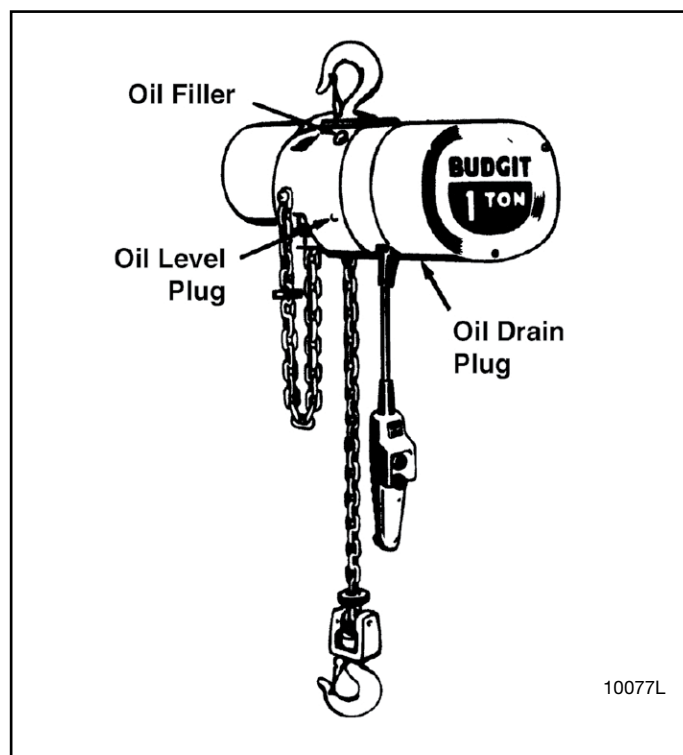

Figure 4-1. Location of Oil Filler and Plugs
4-2. CHANGE GEAR CASE OIL (Fig. 4-1).
(1) Check to see that bolts securing motor to frame are tight. Also check for any visible damage to motor, such as a cracked end bell or dented stator housing. Replace damaged parts.
(2) Check hoist frame for signs of visible damage. If frame shows evidence of fracture, the hoist should be disassembled and inspected for further signs of damage from possible overloading. Replace damaged parts.
(3) Check for possible damage to electrical compartment cover. Be sure screws holding cover are tight.
e. **Check Oil Level.** Remove oil level plug (fig. 4-1). If oil level is not even with bottom of tapped hole, add Automatic Transmission Fluid, DEXRON Type, to bring to proper level.